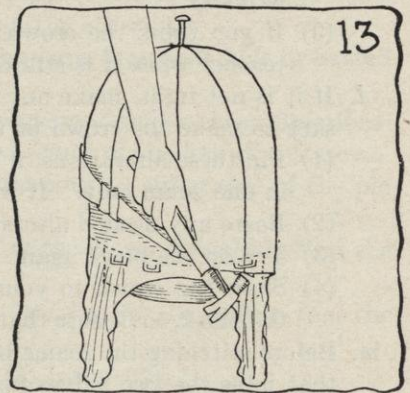

FIG. 13.
- a. Put the outer crown over the crinoline foundation, or directly over the block, if no foundation is desired (see Figure 13).
- c. Be sure the last seam which you sewed, if the crown has an even number of sections (or the center of one section, if the crown has an odd number of sections), runs directly front to back of the block (see Figure 13).
- d. Be sure that the center of the crown tip is in the center of the block and stick a pin into the block to keep it there (see Figure 13). Stick the pin right in the stitching of a seam. Be careful not to spoil fabric with pin marks.
- e. Pull each seam down well, and put a staple at the bottom of each seam, sticking it into the headsize lift (see Figure 13). You may have to remove staples in crinoline crown and put them in outer crown, if they interfere.